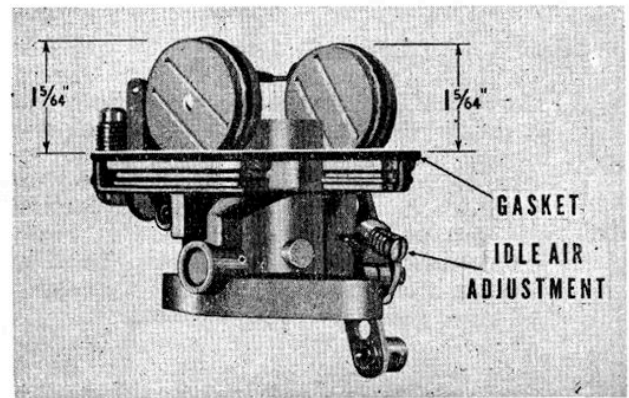

FIG. 22—FLOAT SETTING
- 4-22. FUEL VAPOR DISPENSER (23).—Immerse in clean solvent, then blow dry with compressed air.
- 4-23. INLET NEEDLE (1). (Refer to Figure 22).—Inspect for ridges or any defect which could prevent proper seating.
- 4-24. THROTTLE SHAFT (14).—If shaft is badly worn so that excessive air enters the carburetor at the throttle, replace with new shaft.
- a. Insert throttle shaft (14) with long end out, on the same side as idle adjusting screw, (7), flat side up. Replace shaft seal and retaining washer.
- b. Install throttle lever and stop (10) on throttle shaft (14), lining up hole for set screw (9). Install set screw and tighten.
- c. Place throttle shutter (13) in position with prick-punch mark showing, and tighten securely. Screw-ends (11) are split, and are to be spread after tightening. This may be done with a screw driver through the venturi (22), then operate the throttle making sure that it does not bind or stick in any position.
- d. Close valve tightly and hold up to a light to check for full closure with the idle speed adjusting screw backed off. If shutter is not centered, loosen screws (11), then close the shutter tightly, then re-tighten the screws.